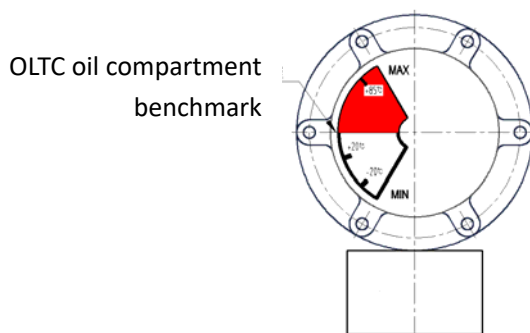

Fig. 16 Oil level indicator
6. Correct oil level position (See Fig. 16);